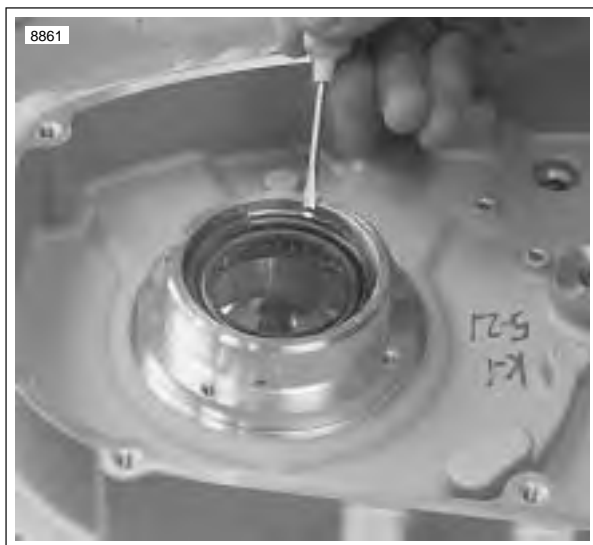

Figure 3-139. Sprocket Shaft Seal Retaining Ring
- See Figure 3-139. Remove sprocket shaft oil seal retaining ring.